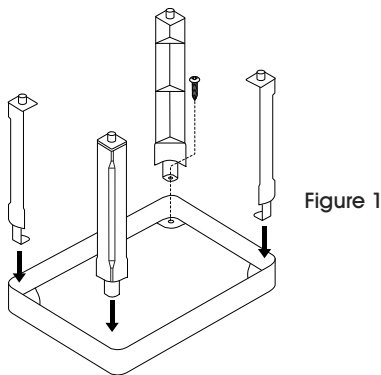

Figure 1
1. Screw supports into the top of the bottom shelf using four screws. (See Figure 1)